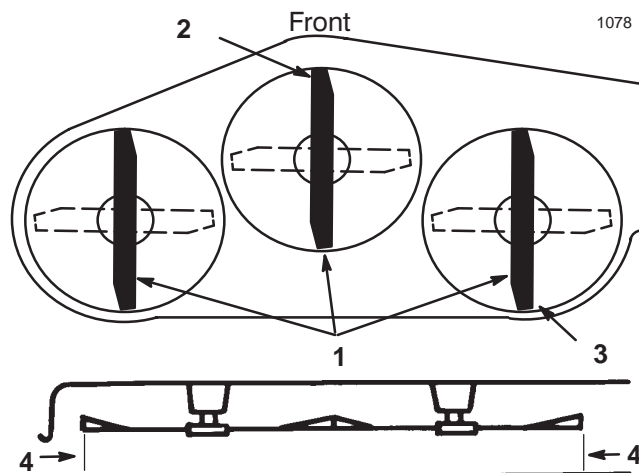

Figure 42
7. Set the height-of-cut at 3 inch (76 mm) and carefully rotate the blades so they are facing front to rear (Fig. 42).
8. Measure between the tip of the front blade (Fig. 42) and the tip of the rear blade to the flat surface. If the front blade tip is not 1/16–5/16 inch (1.6–7.9 mm) lower than the rear blade tip, adjust the front trunion rods.
11. After adjusting both trunion rod yokes evenly, secure the yokes with the hairpin cotters. Check the front-to-rear level again. Continue adjusting the yokes until the front blade tip is 1/16–5/16 inch (1.6–7.9 mm) lower than the rear blade tip (Fig. 42).